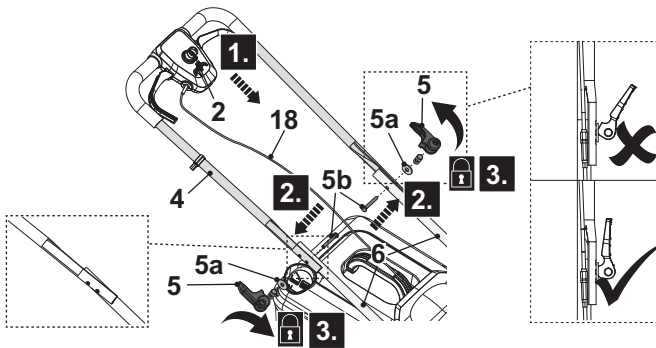

Fig. 3
**NOTE:** For first assembly, secure the lower handle bars (6) with the clamp levers (5) in the middle position of the tilt adjustment mechanism by aligning the indication line (6a) with the indicator (8a) of the transport handle (8). Ensure the lower handle bars (6) are assembled on the same height level on both side.
4. Hold the upper handle bar (4) with the safety switch button (2) facing upwards. Align the mounting holes of the upper handle bar (4) and the lower handle bars (6) (Fig. 3, step 1).
5. Pass the mounting bolt (5b) through the mounting holes to the end (Fig. 3, step 2).
- Secure the inter-connection cord (18) with two wire clips (17) (Fig. 3). Pull the inter-connection cord (18) to avoid contact with the rear wheel (9) if necessary.